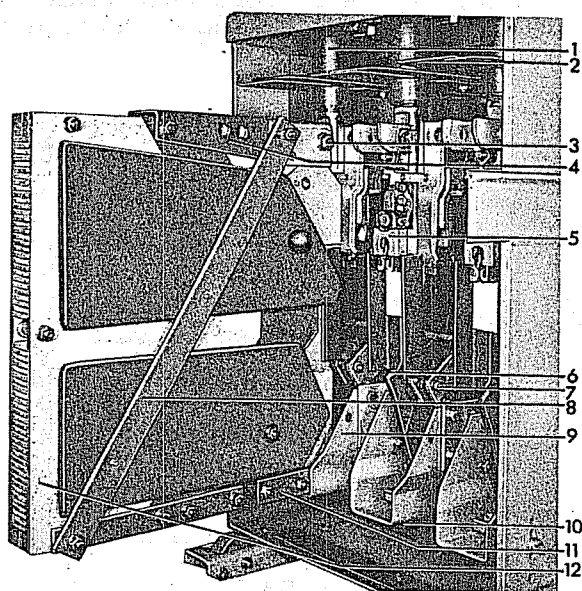

Figure 16 (8039584) Interrupter Removed Showing Accessibility of Arcing Contacts
Refer to Figure 16. To remove the interrupter loosen the two upper supporting bolts (3) and the one lower support bolt (10) using a standard 3/4" wrench. Raise the assembly approximately 3/8" and slide it toward the rear of the breaker.
Tighten the supporting bolts (3 and 10) Figure 16. These bolts serve as both the electrical and mechanical connections between the bushings and the arc runners within the interrupter. Check that the movable arcing contact (6) passes between the probes on the upper arc runner (5) Figure 19 without touching.